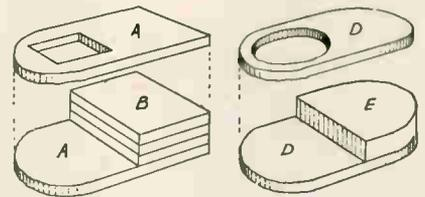
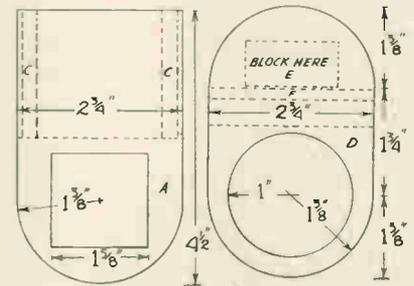

Fig. 1—The wooden base portion
Fig. 2—Detail of parts needed
The construction of the articles is extremely simple, as the diagrams in Fig. 1 show. The inkstand is made up of five pieces, two pieces as A, and three pieces as B. Pieces B, measure $2\frac{1}{4}$ ins. by $2\frac{1}{8}$ ins. The opening for the ink bottle will be cut away on one of the pieces, A, to the square given in the detail, Fig. 2. Glue the pieces together when cut and put them under
Two pieces of $\frac{1}{4}$ in. thick stuff should be chosen for the top and bottom, D, with a $\frac{1}{8}$ in. piece between them for piece E. Patterns for these pieces are given in Fig. 2. The terrier (F) may be cut from a close-grain hardwood and glued about $1/16$ in. away from block, E, to allow the lid of the matchbox to slide down behind it as shown in the sketch of the finished article. Block, E, should be $1\frac{1}{4}$ ins. high by $1\frac{1}{8}$ ins. wide and $\frac{5}{8}$ in. thick.